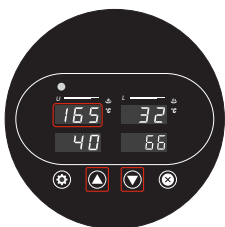

Fig. 2
2. Press Up **11** or Down **12** buttons to select the desired temperature (Fig. 2). The selected temperature is flashing on the display.